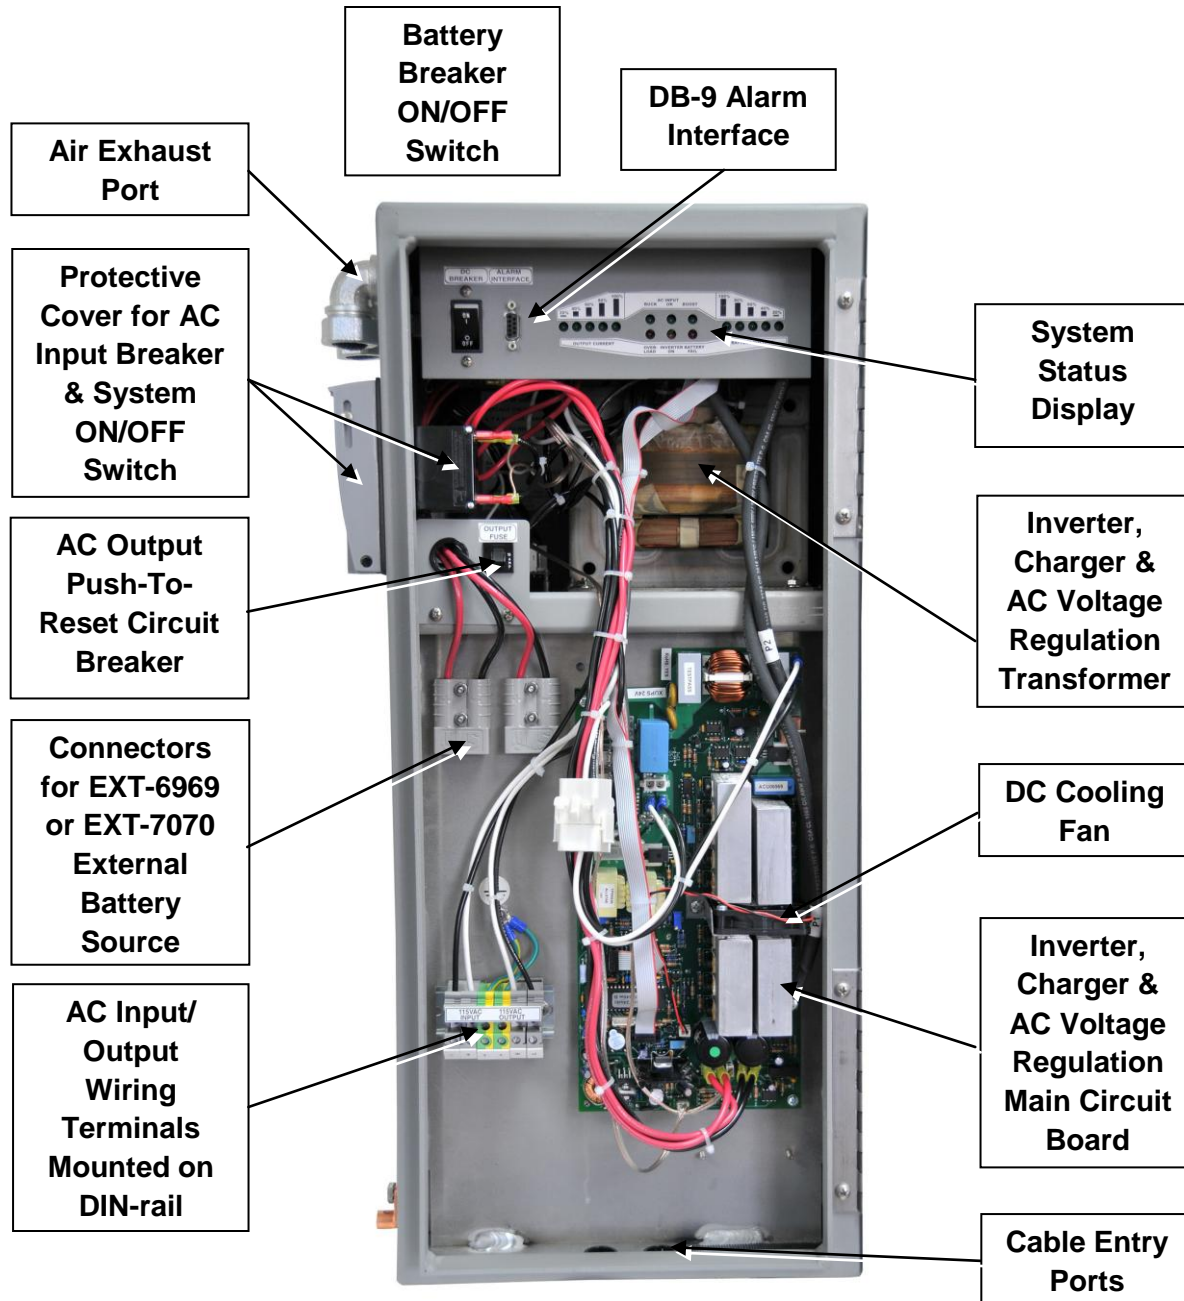

Figure 3: Electronic Compartment w/Door Open
1.7 RIGHT SIDE ACCESS (Electronic Compartment) See Figure 3